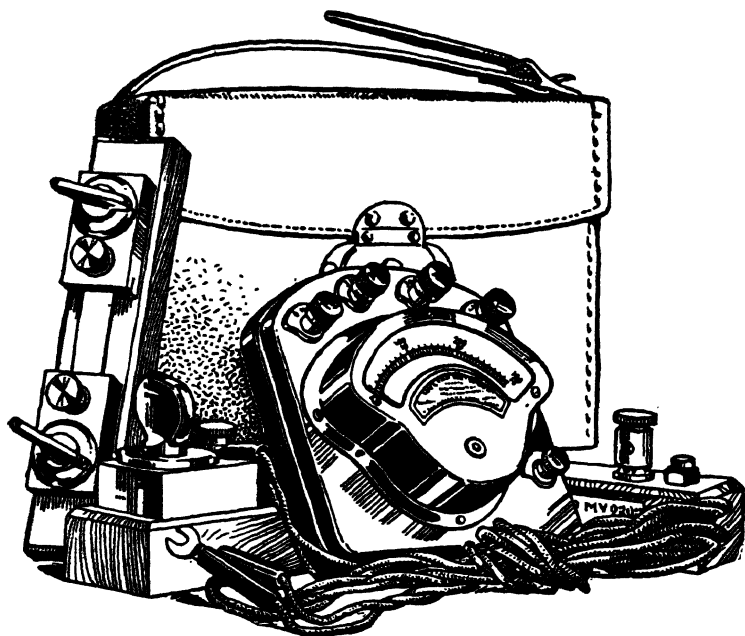

Fig. 3. Portable Combination Volt-Ammeter for Testing
*Special Testing Instruments.* For the garage that claims to be fully equipped to give all necessary attention to the electrical system of the modern car, something more than the simple lamp testing outfit is necessary. Portable volt-ammeters such as shown in Fig. 3 are made specially for this purpose. This is a Weston combination volt-ammeter, the voltmeter being provided with a 0-30, 0-3, and 0 to  $\frac{1}{10}$  scales for making voltage tests, together with three shunts having a capacity of 0-300, 0-30, and 0-3 amperes, respectively, which are used in connection with the